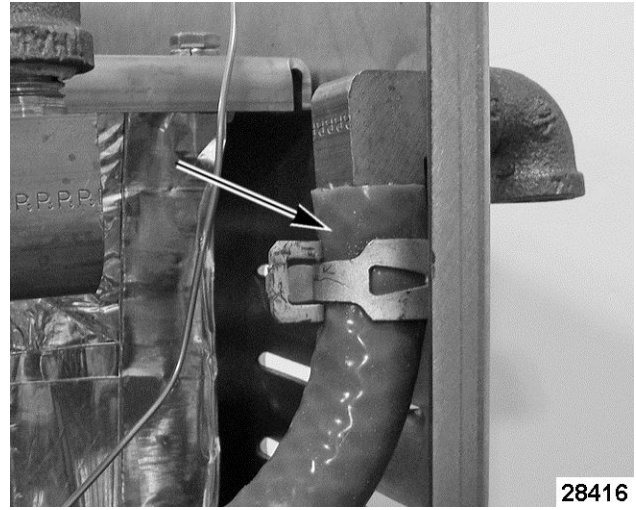

Fig. 7
3. Disconnect vacuum relief hose Fig. 7 from fitting on rear panel.